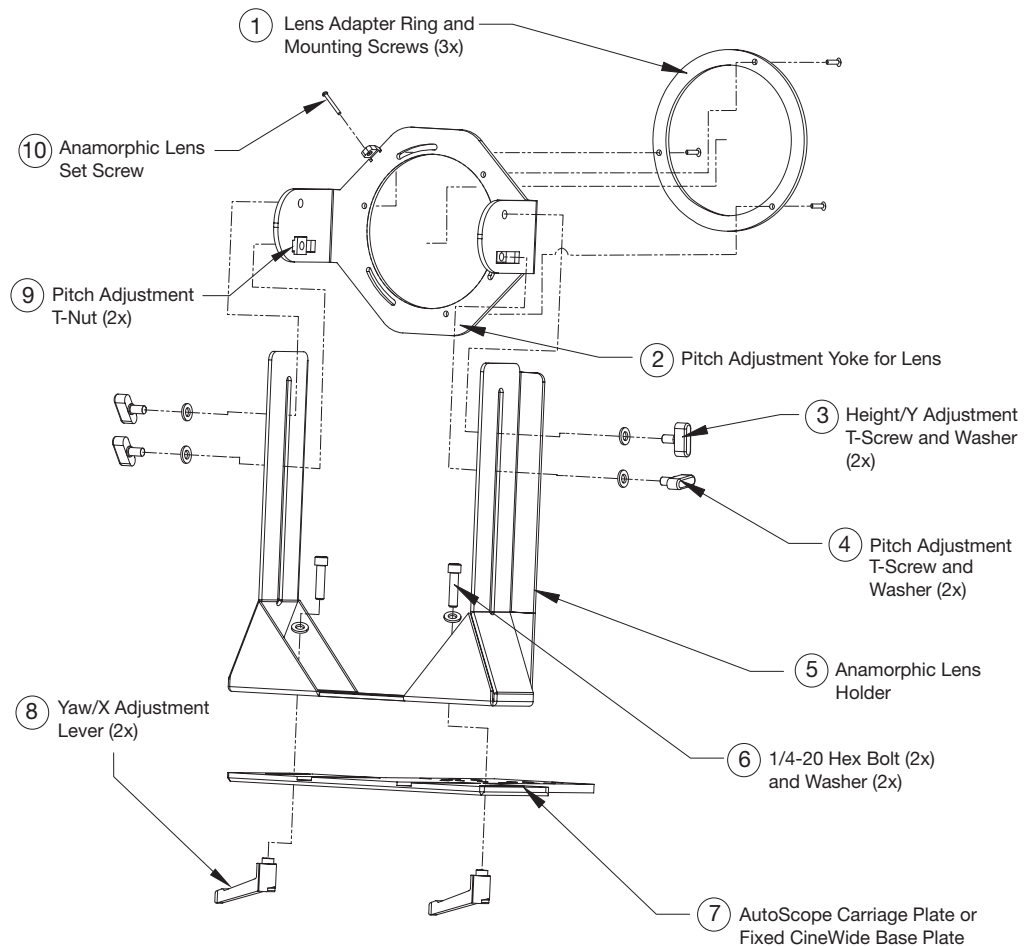

Figure 3-19. Vision 120 Anamorphic Lens Mounting Assembly - Exploded View
The Vision 120 Anamorphic lens mount kit consists of everything shown in Figure 3-19. Some components shipped with your projector may differ slightly from what is shown in these instructions. If any items are missing or damaged, please contact your Vidikron dealer or Vidikron Customer Service at (888) 4VIDIKRON.